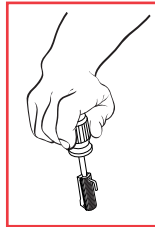

Fig. 15-1
2. With a suitable punch, depress the ILS™ spring cap and hold it down. (Figure 15-1)